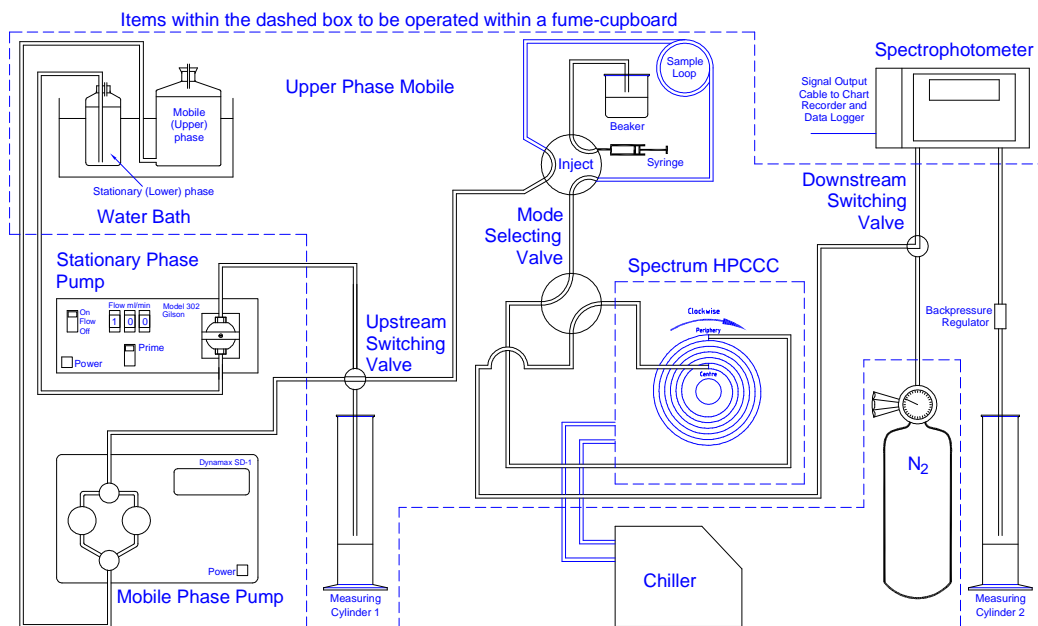

Figure 2: Full Installation Diagram for Spectrum HPCCC instrument
2.3.9 Full Installation (Figure 2)
Figure 2 (overpage) describes how these components are connected together. This is an ideal fully automated system and several components such as the upstream and downstream switching valves and Nitrogen supply are useful but not essential. It is however, absolutely essential that all the tubing in the system is at least 0.8mm internal bore to avoid overpressure and column damage.
Leaks can also be checked for by pressurising the flying lead and column to 200psi (13.5bar) using the nitrogen supply shown in figure 2 with the upstream switch valve closed so that no nitrogen can escape into measuring cylinder 1. Once the column and flying lead are pressurised closed the shut off valve on top of the nitrogen bottle. Monitor the pressure gages on the gas bottles regulator to see if the pressure drops. If the pressure remains constant over say half an hour there is not a leak. If the pressure drops check all joint fittings and valve for leaks using Snoop®. If a leaking fitting or valve is found tighten or replace as appropriate and repeat pressure test. If no leaks from valves or fittings are found replace the flying lead.